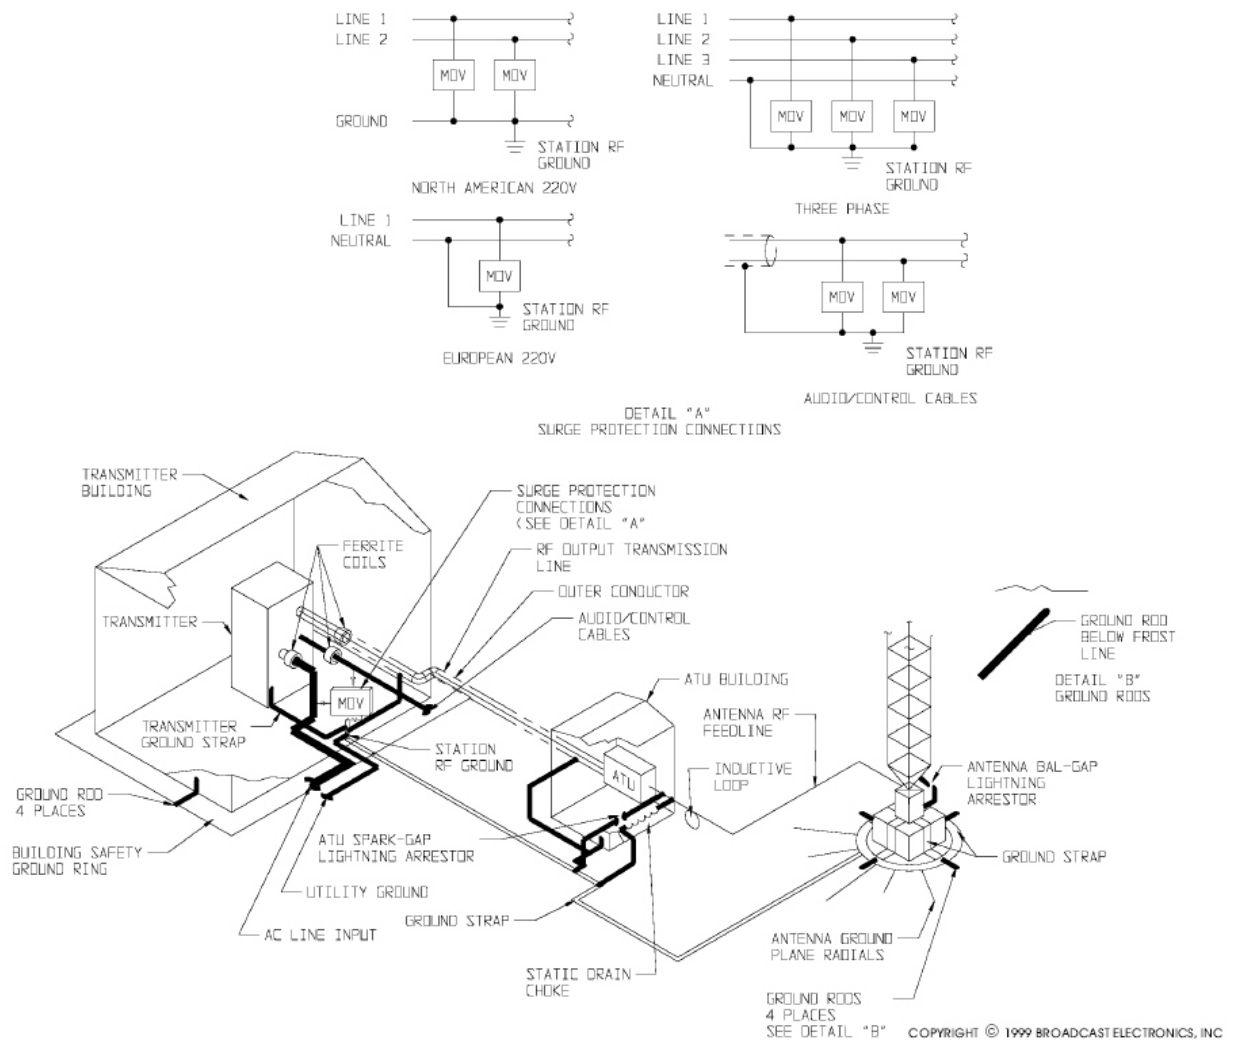

Figure 2-16 Antenna Lightning Protection System
- A. **ANTENNA BALL-GAP LIGHTNING ARRESTOR.** Each tower in the antenna system must be equipped with a ball-gap lightning arrestor (refer to Figure 2-16). The ball-gap arrestor is designed to safely conduct lightning potentials to ground. Inspect the ball-gap arrestors by performing the following procedures.
- B. **ANTENNA-TUNING-UNIT SPARK-GAP LIGHTNING ARRESTOR.** The antenna-tuning-unit (ATU) must be equipped with a spark-gap lightning arrestor (refer to Figure 2-16). The spark-gap arrestor can be: 1) a ball-gap type, or 2) a horn type. Adjust the spark-gap for the smallest possible gap without arcing during peak modulation activity.
- C. **TRANSMITTER SITE GROUNDING SYSTEM.** The transmitter site grounding system must be properly connected for reliable transmitter operation. A typical transmitter site grounding system is shown in Figure 2-16. Perform the following procedures to ensure the grounding system connections are secure.
- D. **CABLE PROTECTION.** The ac line cable, audio/control cables, and the RF output transmission line require a combination of MOV and ferrite core protection to prevent the entry of lightning potentials (refer to Figure 2-16). Refer to the following text to install MOVs and ferrite cores to prevent the conductance of lightning potentials. Ensure MOV's are connected from the ac line and audio/control cable conductors to the station RF ground as shown. The MOVs should be rated for 20,000 Ampere surges (BE P/N 140-0032).